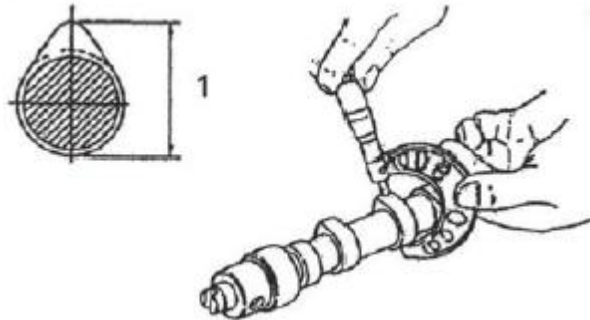

Figure 105.
3. Measure the height of each lobe (Figure 105, Item 1). See the *Camshaft Specifications Chart*.